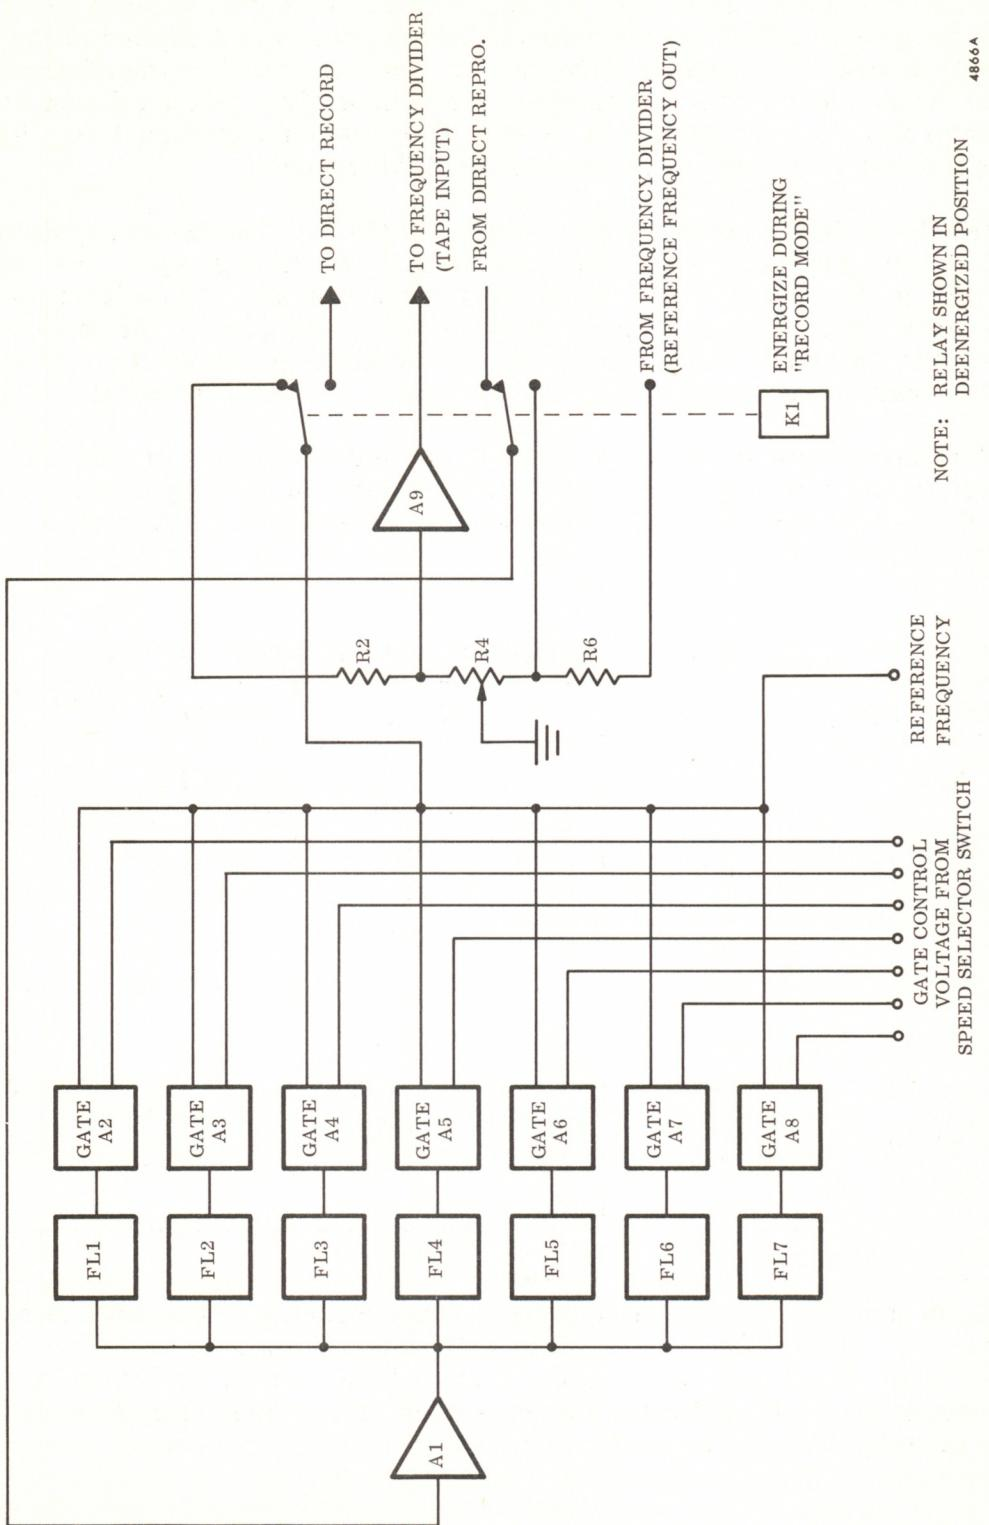

Figure 4.2-5. Control Track Filters, Block Diagram
**4.2-19** In the record mode, as shown in Figure 4.2-5, a squarewave signal from the frequency divider is applied to an attenuation circuit and fed to the filter drive amplifier (A1) through the closed contacts of relay (K1). The output of the amplifier is coupled to seven bandpass filters (FL1 through FL7). The output of each filter, depending upon the speed
4.2-20 In the reproduce mode, as shown in Figure 4.2-5, the signal is accepted from the control track input connector (J213) at the rear of the control bay and applied to the filter drive amplifier (A1) through the contacts of relay K1. The output of the amplifier is processed in the same manner as for the record mode except that after passing through the appropriate gate and relay K1 it is coupled to an attenuator and an operational amplifier A9. The output of the amplifier is applied to the frequency divider card.